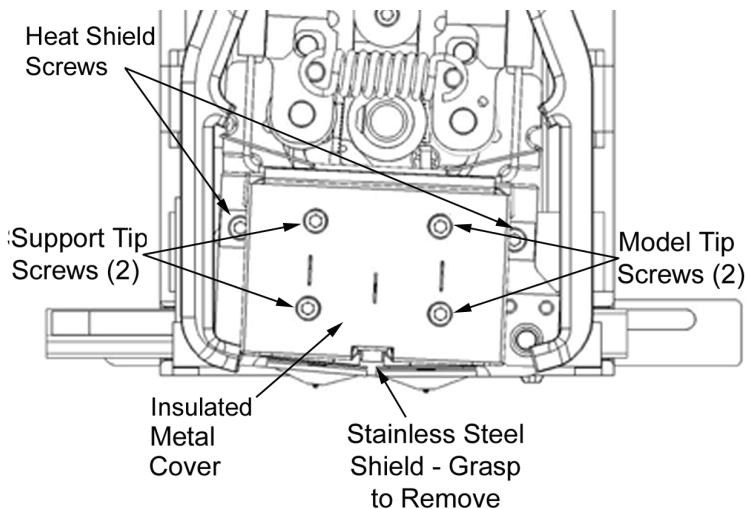

Figure 19: Tip Removal
(Figure 19 on page 50)
1. Remove the Heat Shield - loosen the 2 Heat Shield retaining screws (7/64 allen) (Figure 19 on page 50).